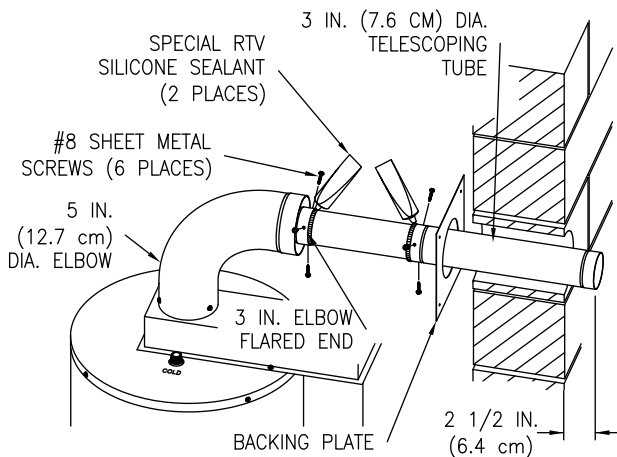

Figure 7
7. Extend the three (3) inch (7.6 cm) diameter telescopic tube to its maximum length and slide the backing plate over it. Place the large end of the three (3) inch (7.6 cm) diameter telescopic tube through the hole in the outside wall. Insert the smaller end of the three (3) inch diameter (7.6 cm) telescopic tube into the flared end of the three (3) inch (7.6 cm) diameter elbow, one (1) inch (2.5 cm) (or until seated). Drill three (3) 1/8 inch diameter holes, 120° apart, through the three (3) inch (7.6 cm) diameter elbow into the three (3) inch (7.6 cm) diameter telescopic tube. Fasten with three (3) #8 sheet metal screws (supplied). Adjust the overall length of the three (3) inch (7.6 cm) diameter telescopic tube so that 2-1/2 inches (6.4 cm) extends beyond the outside wall. Drill three (3) 1/8 inch (3.0 mm) diameter holes, 120° apart, through the three (3) inch (7.6 cm) diameter telescopic tubes where the small and large sections overlap. Fasten with three (3) #8 sheet metal screws (supplied). Using the supplied special RTV silicone sealant, apply a sufficient amount to seal the joints (See Figure 7).